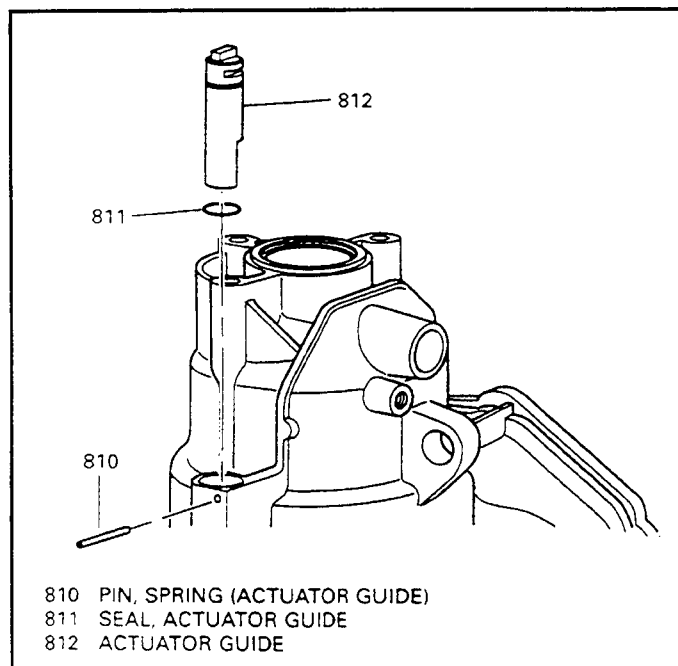

Figure 86
3. Remove the actuator guide roll pin (810) from the case (See Figure 86).
4. Remove the actuator guide (812) and "O" ring seal assembly from the case (See Figure 86).
5. Install a new "O" ring on the actuator guide as shown in Figure 86.
7. Install the actuator guide and "O" ring seal into the transaxle case (See Figure 86).
8. Install the actuator guide roll pin into the case to secure the actuator guide, making certain the roll pin enters the slot in the actuator guide as shown in Figure 86.